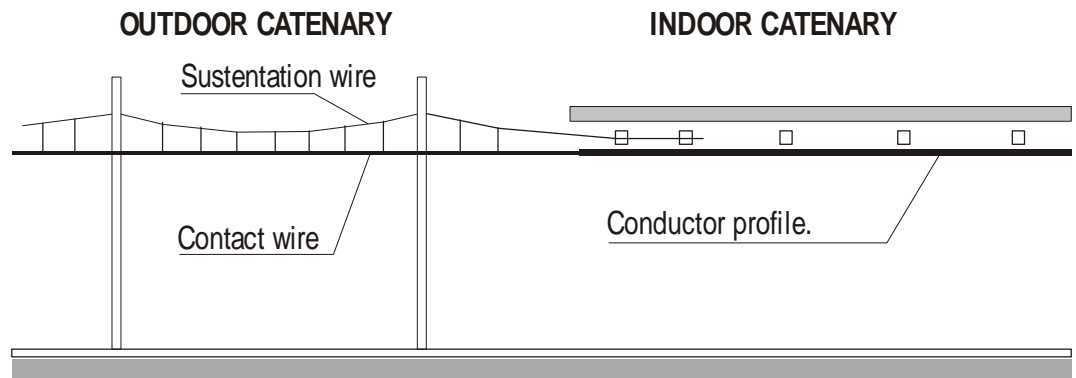

Fig. 6
- 1mm. Using rigid catenary, the tunnels gauge may be reduced (Fig. 6). The required gap between the catenary and the roof is about 400 mm., although it would be possible to install it with a 300 mm gap.